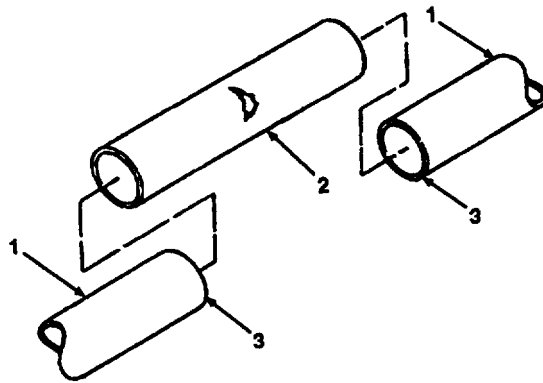

Figure 3-2. Damaged Hose Section Removal.
- c. Cut both sides of hose (Figure 3-2, 1), 6 inches from leak.
- d. Remove damaged section of hose (2).
- e. Inspect inside of hose ends (3) for further damage.
- f. Cut hose (1) back again, as required, to reach an undamaged area.